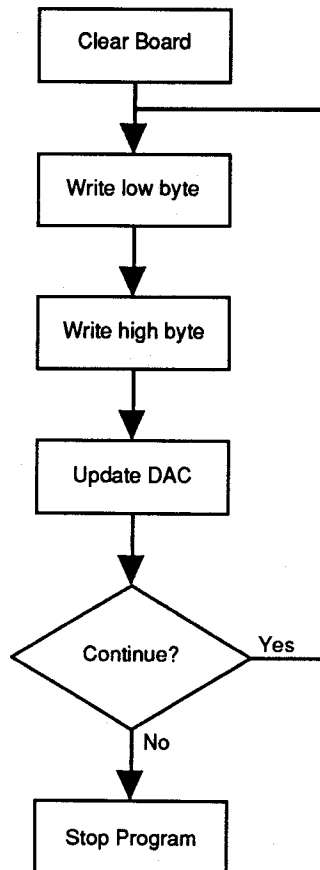

Fig. 4-7 — D/A Conversion Flow Diagram
• **D/A Conversion Flow Diagram (Figure 4-7)**